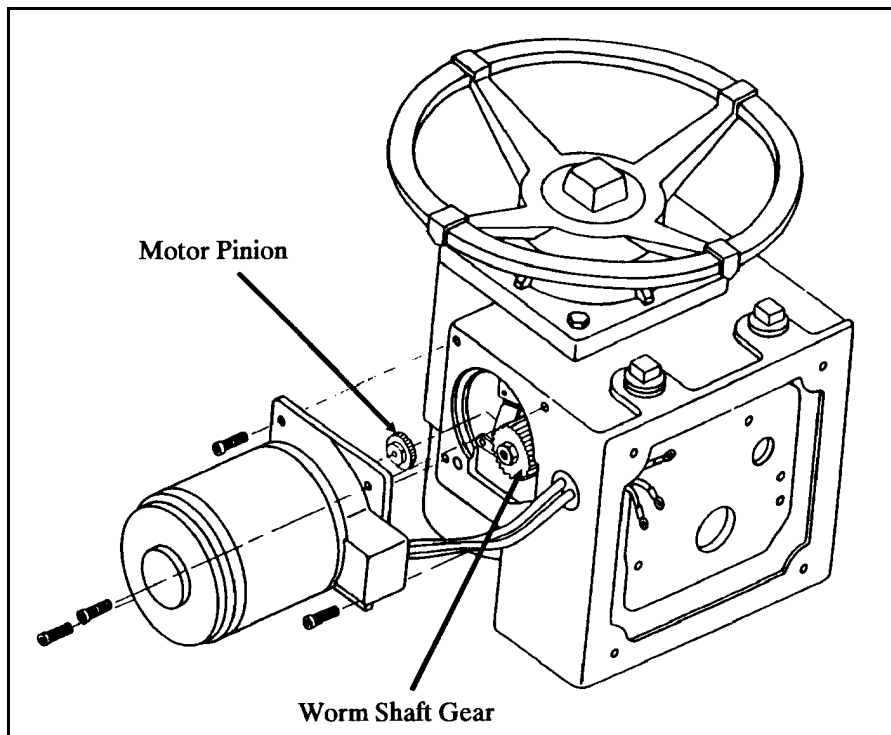

Figure 4-47 Motor Bearing and Pinion Checkout
27. Motor Bearing and Pinion Checkout Refer to Figure 4-47